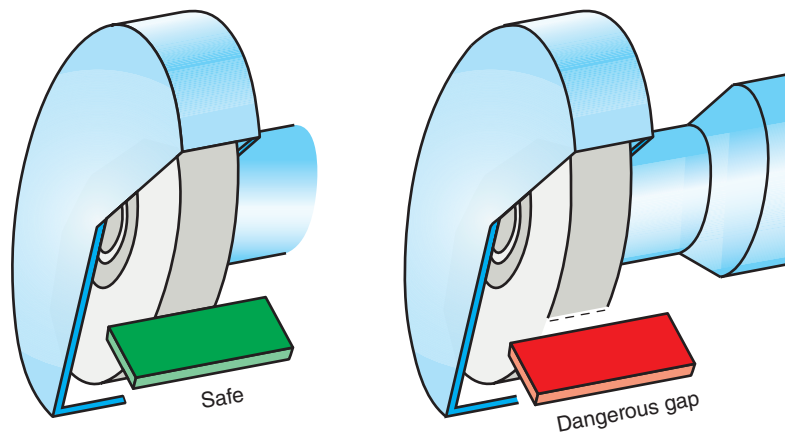

Figure 5-71 The tool rest must be within 0.100 or less from the wheel.
2. Be certain there is a scatter shield on the upper portion of the wheel and that it is lowered close to the wheel. Its main purpose is to contain hot swarf, but in the rare incidence of a wheel explosion, it will also contain wheel fragments. (The upper guard is not shown in Fig. 5-71.)